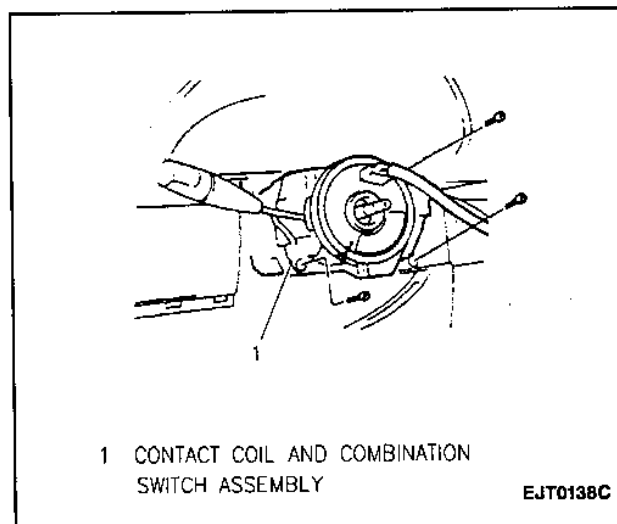

Figure 10—Removing Sir Contact Coil and Combination Switch
- 8. Three retaining screws and SIR coil and combination switch from steering column (Figure 10).
- D. SIR coil and combination switch from column by removing three screws (Figure 10).
- A. SIR coil and combination switch to steering column; secure with three screws (Figure 10).